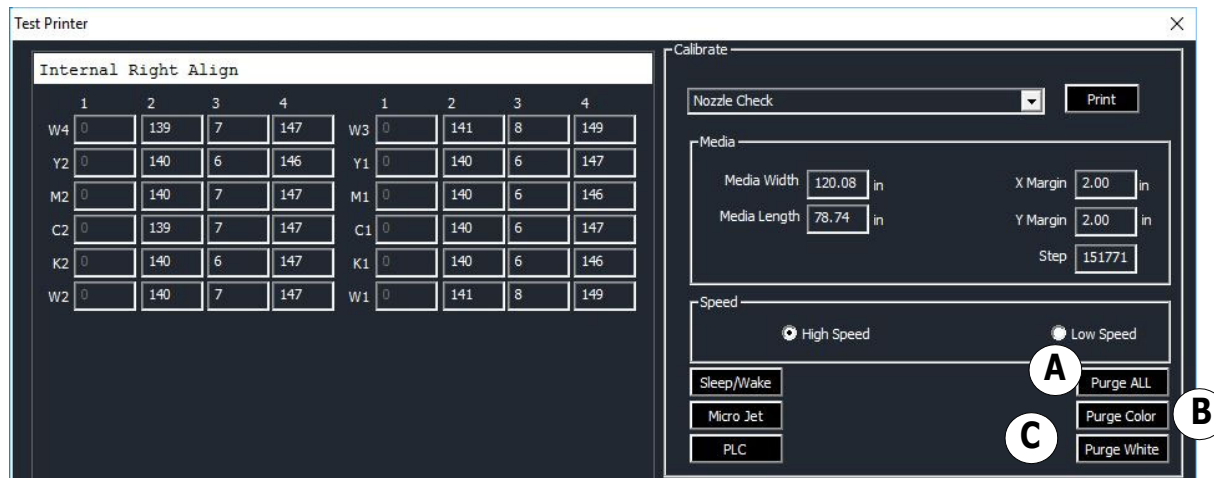

Figure 5-16 GUI Purge Buttons
- From the MOTION tab on the GUI, purge white print heads, CMYK print heads, or all colors, as shown in Figure 5-16. A sweep is also performed.